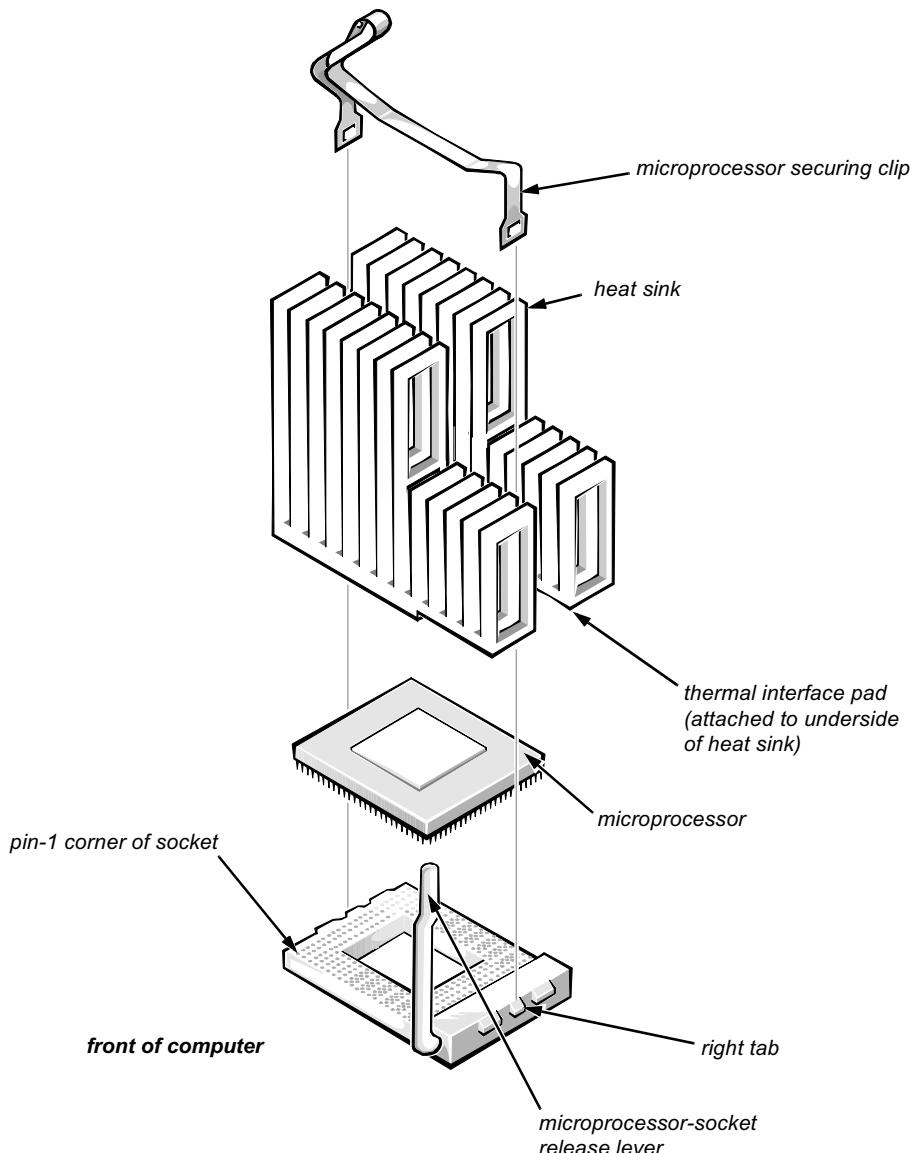

Figure 5-22. Microprocessor Removal
3. **Push outward and then upward on the microprocessor-socket release lever to rotate the lever to its fully vertical position (see Figure 5-22).**